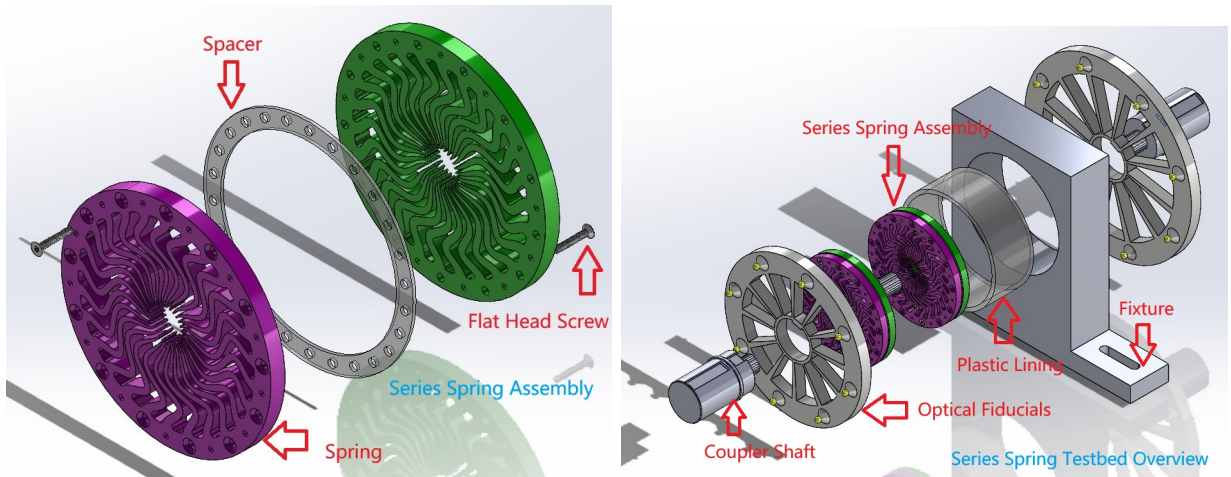

Figure 1: CAD Design of Series Torsional Spring
- Computer Aided Design (CAD) of Series Torsional Spring, shown in Figure 1.